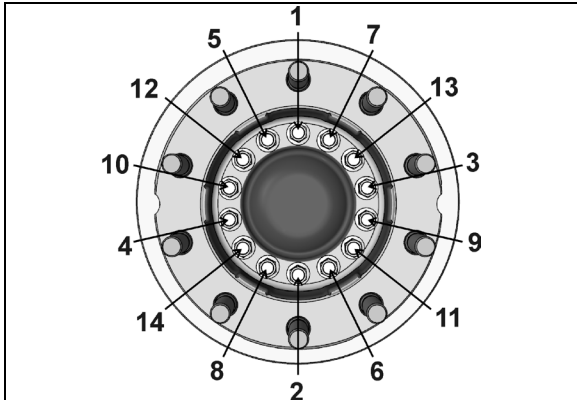

FIGURE 33: HUB FLANGE HEX CAP SCREW TIGHTENING SEQUENCE
16. Secure hub flange and rotor to unitized hub bearing using 14 new cap screws (single-use only). Refer to FIGURE 33 for tightening sequence.